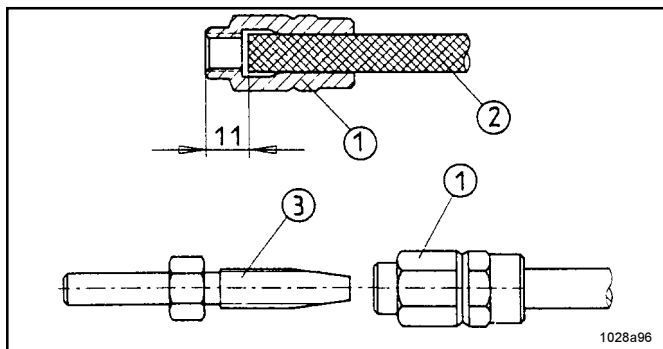

Fig. 41 -Preassembly of the threaded sleeves and hose studs on the high-pressure plastic hose
- Screw the threaded sleeve (item 1 Fig. 41) counterclockwise onto the high-pressure plastic hose (2) until the illustrated dimension of 11 mm (0.43 in.) is reached. Then screw the hose stud (3) into the threaded sleeve (1).